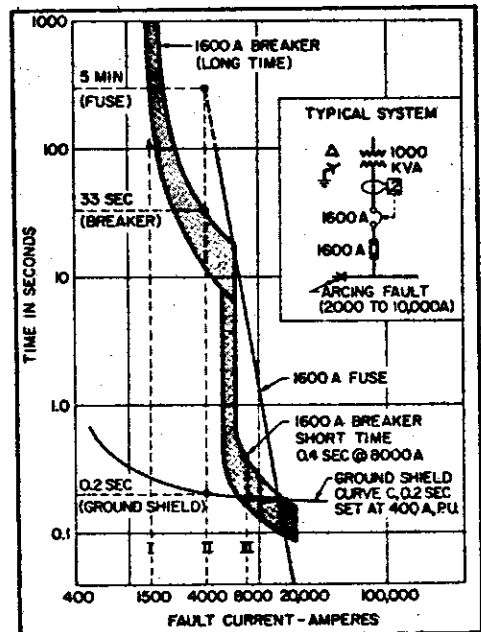

Figure 17—Ground-Shield System
The basic need for ground-fault protection in low-voltage systems is illustrated in Figure 17. Shown is a 1000 kVA service transformer with a 1600-ampere main breaker (with typical long-time and short-time characteristics) and fuse. A 1500A ground fault (Point I) on the 480Y/277 grounded neutral system would not be detected by this breaker. A 4000A ground fault (Point II) could persist for about 33 seconds even if the
minimum long-time band were used. An 8,000 ampere ground fault (Point III) would be cleared within about .2 to .4 seconds by the short-time device, assuming it is present, otherwise, between 8 to 20 seconds would elapse before the fault is cleared. For the assumed 8,000A fault, even though the current values are the calculated result using all source, circuit and arc impedances, the actual RMS current values passing through the circuit breaker can be considerably lower. This is because of the spasmodic nature of the fault caused by (1) arc elongating blow-out effects, (2) physical flexing of cables and some bus structures due to mechanical stresses, (3) self-clearing attempts and arc re-ignition, and (4) shifting of the arc terminals from point to point on the grounded enclosure (as well as on the faulted conductors for non-insulated construction). All of these effects tend to reduce the RMS value of fault currents. Figure 17 also illustrates that a ground fault which would normally produce 8,000A under stabilized conditions and which results in an effective value of only 4000A (Point II) would have a max. clearing time of 33 seconds instead of the normally expected max. of .4 seconds.
Other fault interrupting devices such as fuses (Note from Figure 17 that a 1600A fuse takes 5 minutes to clear a 4000A fault) which have far slower operating times as low fault currents, have even a greater need for supplementary ground-fault protection. Most of these devices have time-current characteristics which delay tripping for about 100 seconds for fault currents 200% to 300% of normal continuous-current rating.